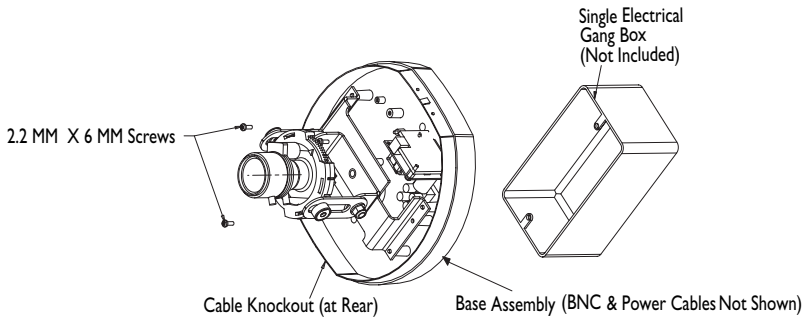

Figure 2 Mounting
1. When mounting to an electrical gang box, place the 2 supplied 6-32 x fl screws through the unit's screw holes and mount directly to the box. When wall mounting, position the unit such that the cable knockout (see figure 2 or figure 10) is toward the floor. For mounting without a gang box, insert screws through holes and attach to anchors appropriate for the specific wall/ceiling type.